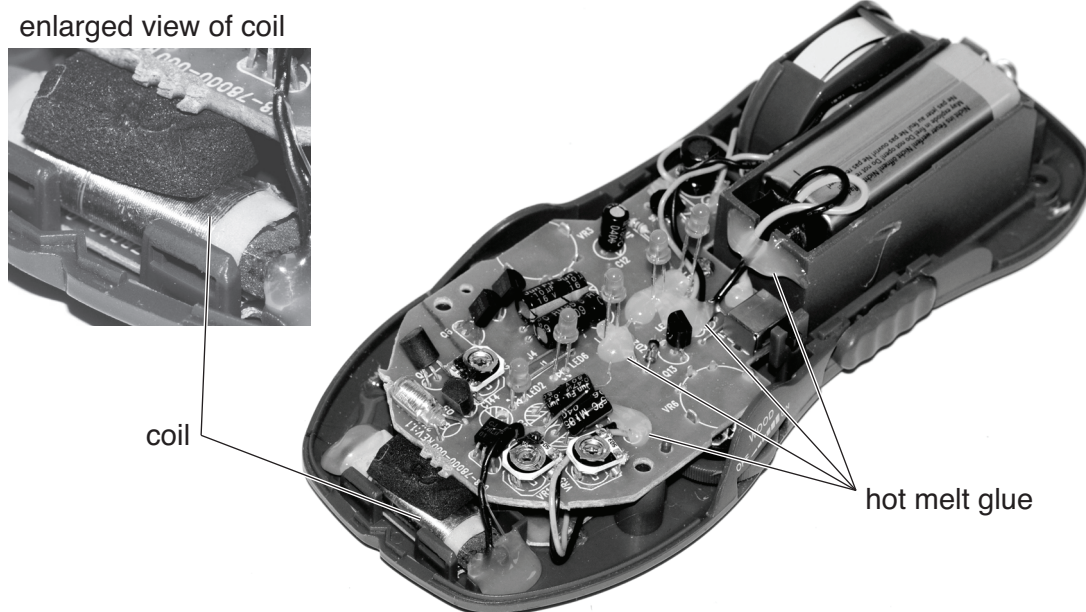

Fig. 19
- (c) Fig. 19 shows a view of the circuit board.